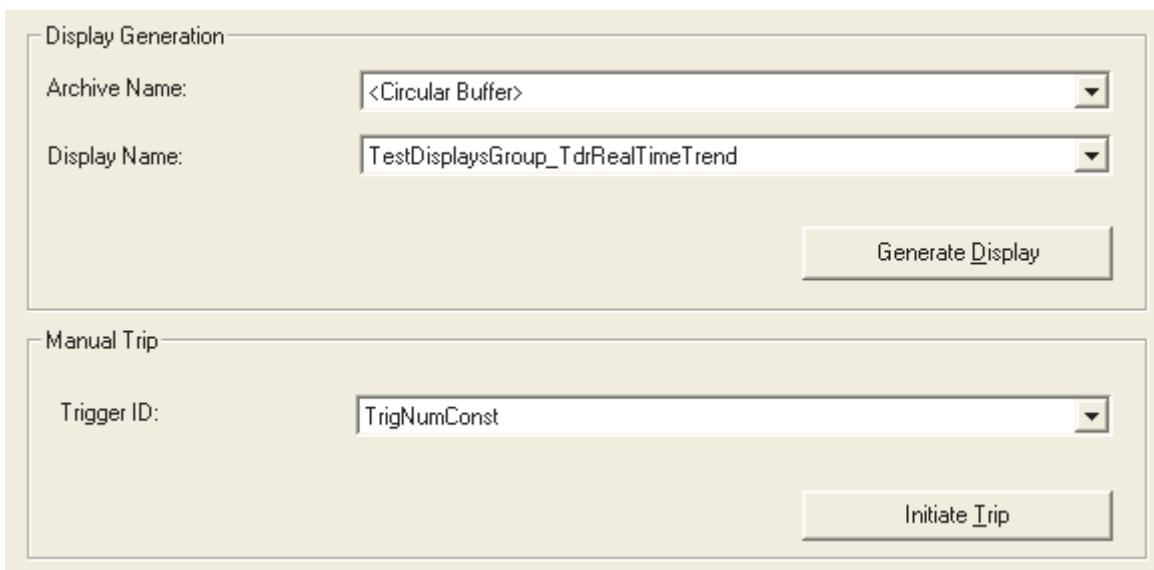

Figure 3-21. Operation Mode Window
The Operation Mode window opens, as shown in Figure 3-21.
- ♦ In the Operation Mode window (Figure 3-21), select the trigger you wish to test from the **TriggerID** drop-down menu and then click **Initiate Trip**.